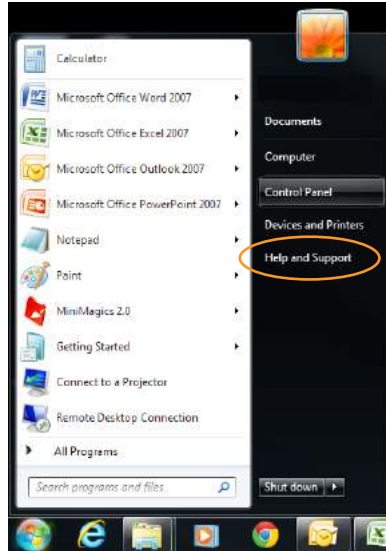
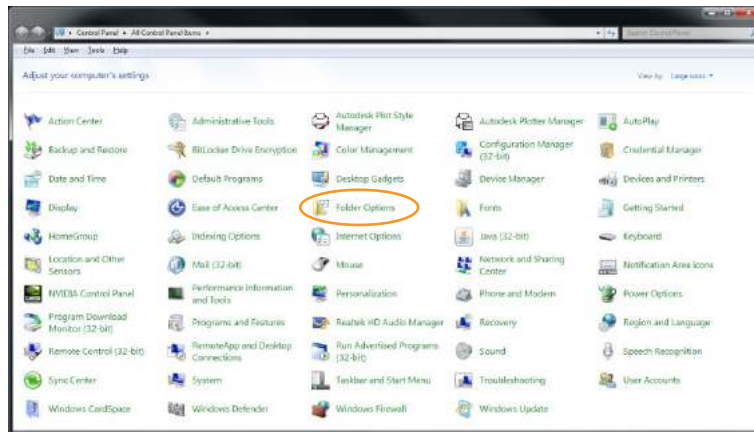

Figure 248 Control panel
Figure 249 Internet options
1. Open **Control Panel** (Figure 248) then **Internet Options** (Figure 249).